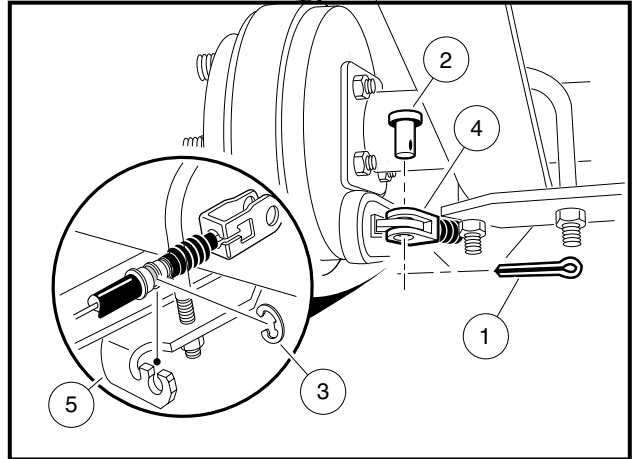

Figure 6-39 Disconnect Cables at Rear Brakes
- 4.1. Remove cotter pins (1), clevis pins (2), and E-clips (3) (**Figure 6-39, Page 6-23**).
2. At the rear wheel brakes, connect the cables to the brake actuator arms using clevis pins (2) and new cotter pins (1) (**Figure 6-39, Page 6-23**).
3. Place cables in cable support bracket (5) and secure with E-clips.